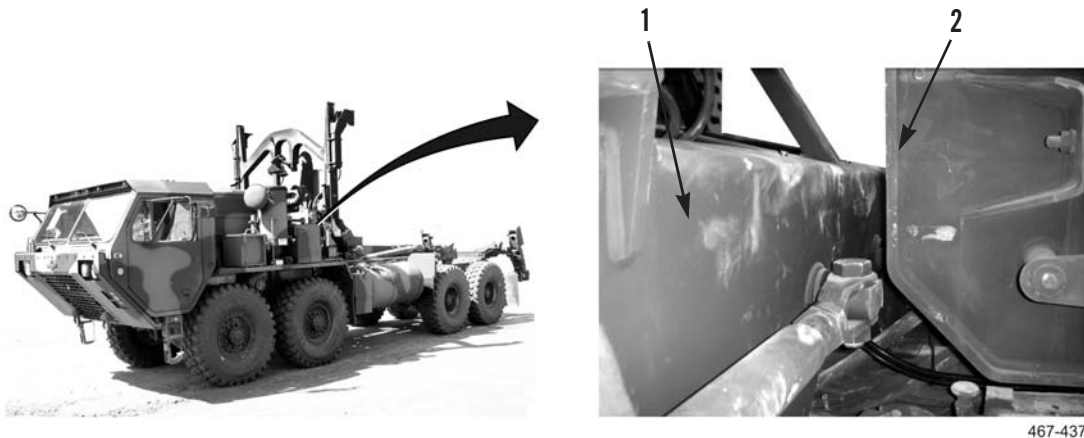

Figure 17. Distance Between Stowage Assembly and Hook Arm.
53. Adjust placement of stowage assembly (Figure 17, Item 1) on frame until distance between stowage assembly and front edge of hook arm (Figure 17, Item 2) measures 3 1/8 in. (80 mm).